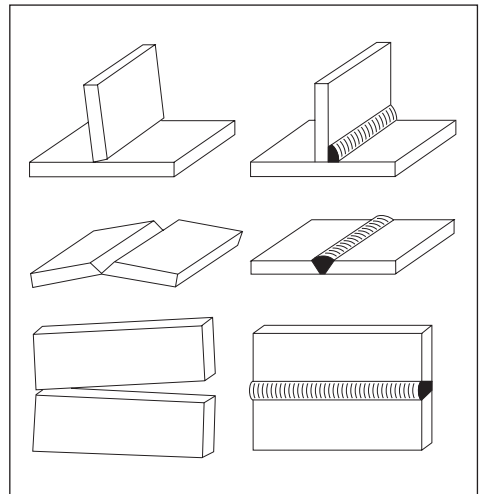

Figure 4.12. Presetting of butt and fillet welds
- Presetting the plates (see figure 4.12) can help control angular distortion.